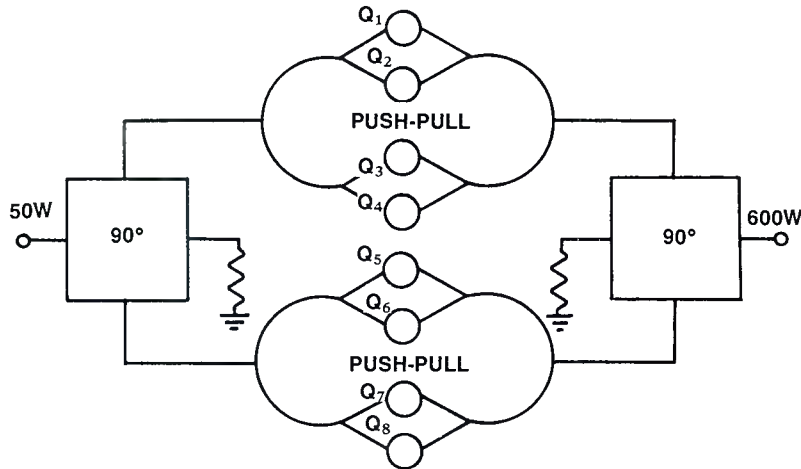

Figure 1. Schematic diagram of a 600W VHF amplifier using eight FETs in a parallel device/parallel module configuration.
Solid-state devices are routinely used at power levels of 250W (CW). As designers find ways to improve operating efficiency and remove heat generated during use, the maximum operating power will rise. However, it is unlikely that semiconductors will be able to operate cost-effectively in a CW mode in excess of 500W anytime soon. In order to achieve greater output levels, devices — indeed entire amplifiers — must be operated in parallel. Figure 1 illustrates an RF amplifier using both parallel devices and parallel amplifiers. The